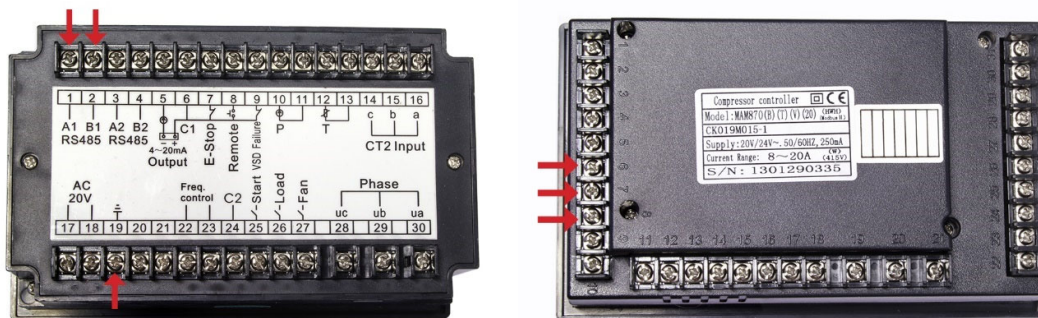

Figure D-1 Rear View of MAM-860 (Left) and MAM-870 (Right) Controllers
- (b) Locate terminals 1, 2 and 19 on the rear of each MAM-860 Controller. Also, locate terminals 6, 7 and 8 on each MAM-870 Controller, if any. Refer to Figure D-1.